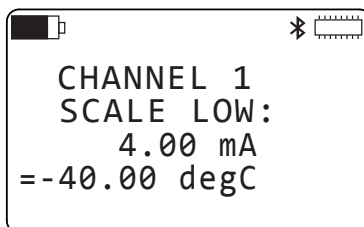

Figure 11. Scale Low screen
2. This screen displays the low input value, as determined by the input type. For example, if the input type is set to 4-20 mA, the displayed value is 4.00 mA, as shown in Figure 11. Below this field is the value to which the input setting will scale. This is expressed in the measurement units defined in the Units screen. To change this setting, press \leftarrow once to enter selection mode, then press \leftarrow a second time to begin edit mode.
In Figure 11 we have set the low scale measurement value to “-40.00 degC.” This means that when channel 1 receives 4mA input from the probe, the LCD will display this data as “-40 degC.”